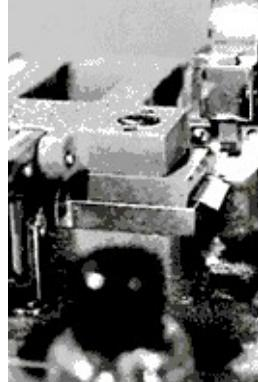

Figure 10
- With the fingernail of your right index finger, bend down the edge of the overhanging half frame (Fig. 10). This will make it much easier to for you to scrape off the emulsion without tearing the film.